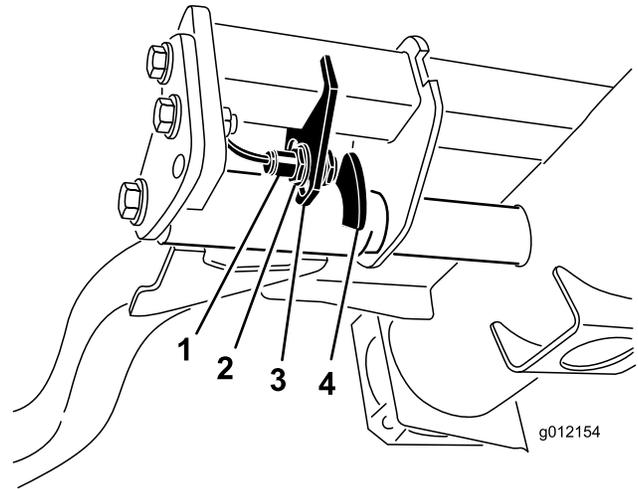

Figure 35
- The lift arm switch is located underneath the hydraulic tank behind the front right lift arm (Figure 35).
- Loosen the switch mounting screws (Figure 35) and move the switch down to increase the lift arm turn around height or move the switch up to decrease the lift arm turn around height. Tighten the mounting screws.